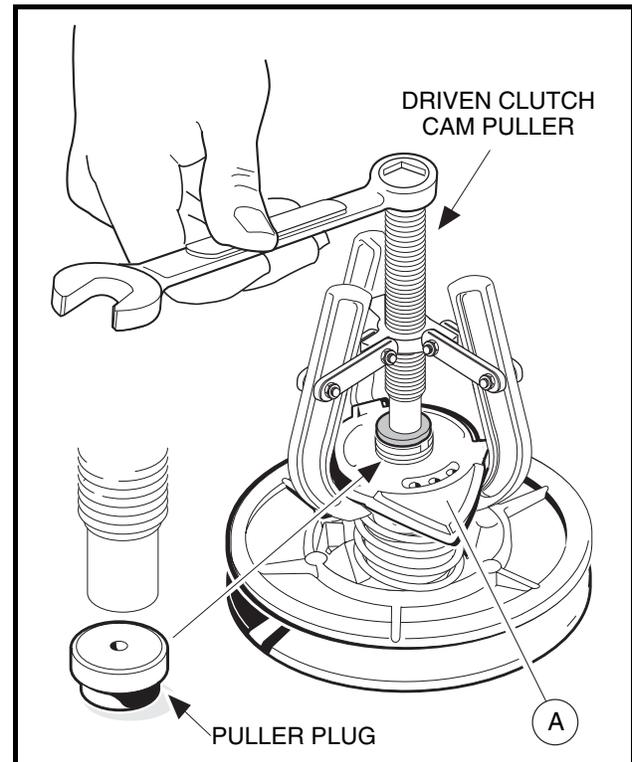
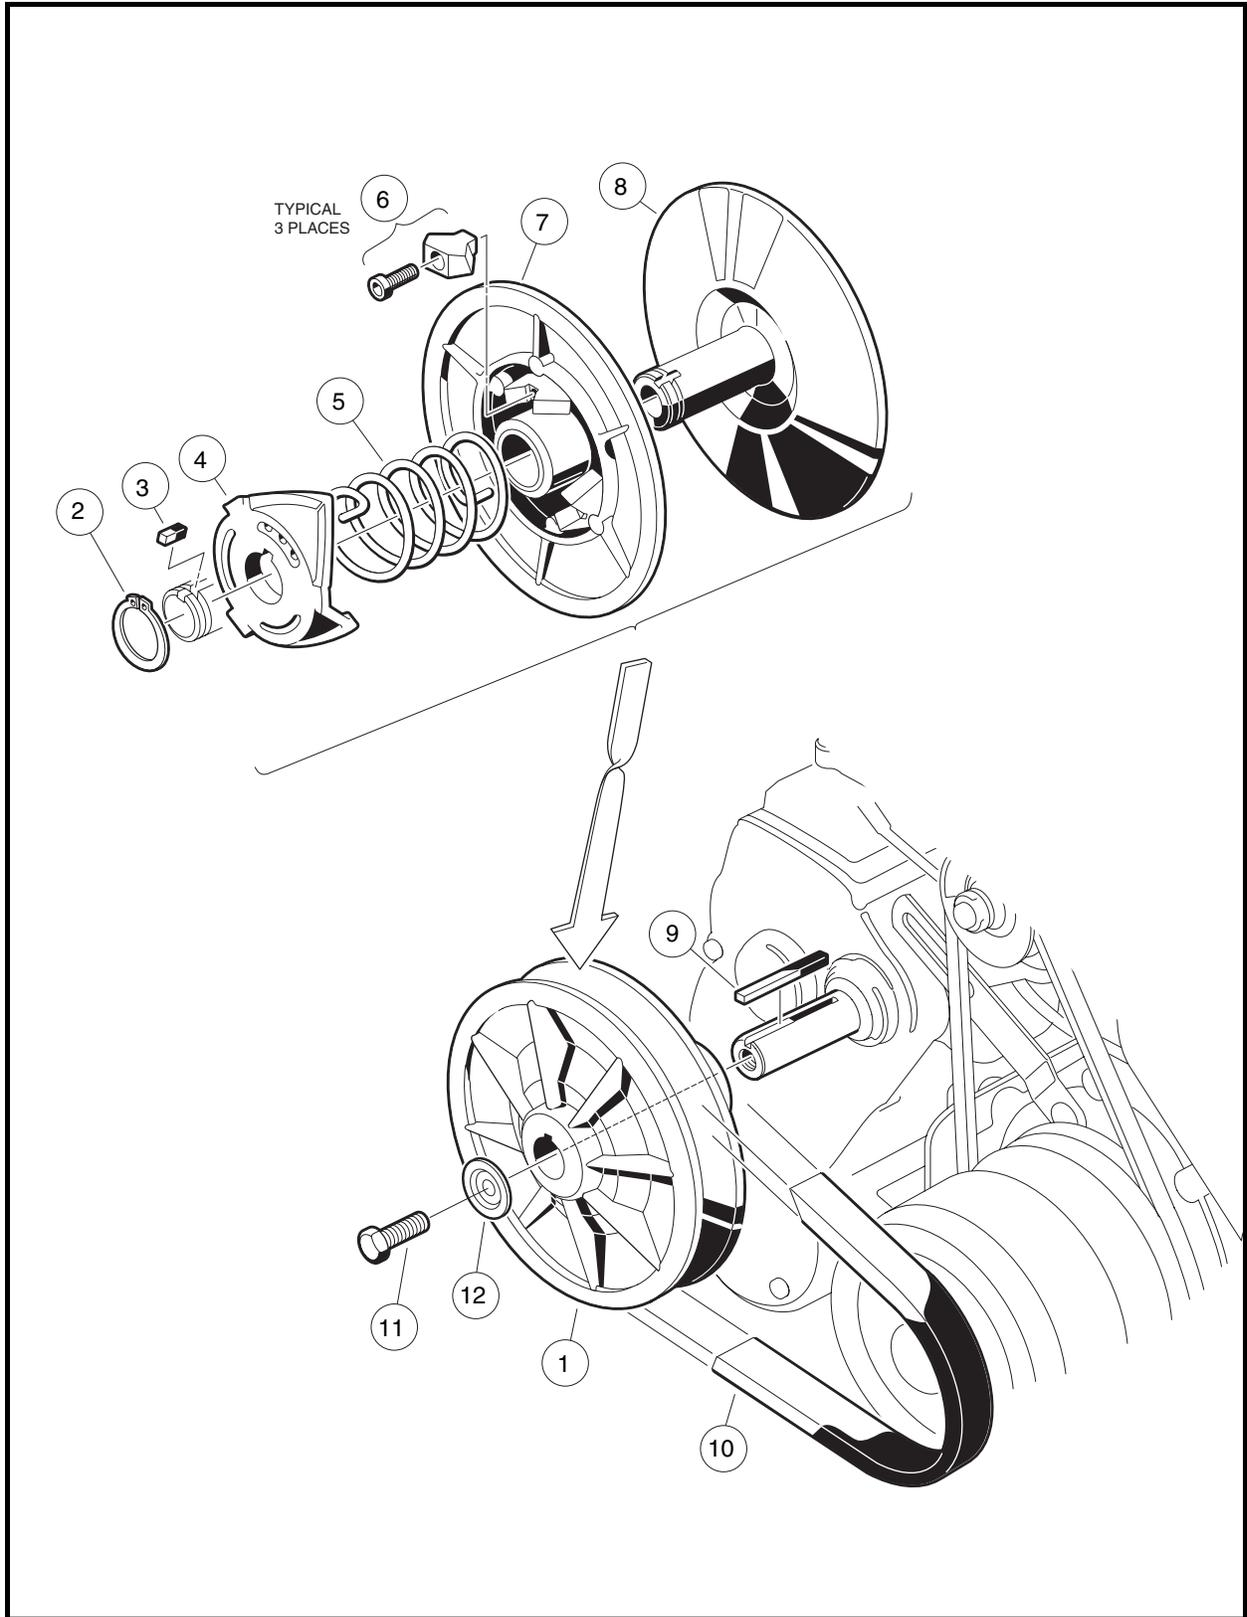

Figure 17-21 Driven Clutch Disassembly
Figure 17-22 Driven Clutch Assembly
3. Remove the bolt (11) and mounting washer (12) from the clutch shaft (**Figure 17-22, Page 17-15**).
5. Leave the key (9) in the keyway.
2. Insert a puller plug (CCI P/N 1014507) (Figure 17-21, Page 17-14) into the shaft bore and use a driven clutch cam puller (CCI P/N 1014508) to remove the cam (4) from the fixed face shaft (8) (Figure 17-22, Page 17-15).
3. Remove the spring (5) (Figure 17-22, Page 17-15).
4. Retain the key (3).
5. Slide the moveable face (7) off the fixed face shaft (8).
1. Inspect the cam (4) for excessive wear. Replace it if necessary (**Figure 17-22, Page 17-15**).
2. Inspect the drive buttons (6) for excessive wear. Replace if necessary. To remove the drive buttons, remove the socket-head cap screws and then the buttons.
1. Place the three drive buttons (6) in position. Apply one drop of Loctite® 222 to each of the socket-head cap screws and then install and tighten them to 8 in-lb (0.9 N-m) (**Figure 17-22, Page 17-15**).
2. Slide the moveable face assembly (7) onto the fixed face shaft (8).
3. Place the end of the spring (5) into the hole in the moveable face assembly.
4. Install the key (3) into the keyway of the fixed face assembly (8) shaft.
5. Holding the cam (4) in position for assembly on the shaft, install the other end of the spring (5) into the center spring hole of the cam. Rotate the cam until the keyway is aligned with the key (3) on the fixed face assembly, and then start the cam onto the shaft approximately 1/4 to 3/8 inch (6.3 to 9.5 mm).
- 5.1.3. Install the retaining ring (2) (**Figure 17-22, Page 17-15**). **See following NOTE.**
1. To install the driven clutch, reverse the removal procedure. Make sure that the washer (12) is mounted with the flat portion of the washer against the driven clutch (**Figure 17-22, Page 17-15**). Secure with a new bolt (11). **See following NOTE.**
**NOTE:** *The bolt (11) must be replaced with a new bolt (CCI P/N 102242101) containing a locking patch that will prevent the bolt from loosening.*
2. Tighten the bolt (11) to 18 ft-lb (24.4 N·m).